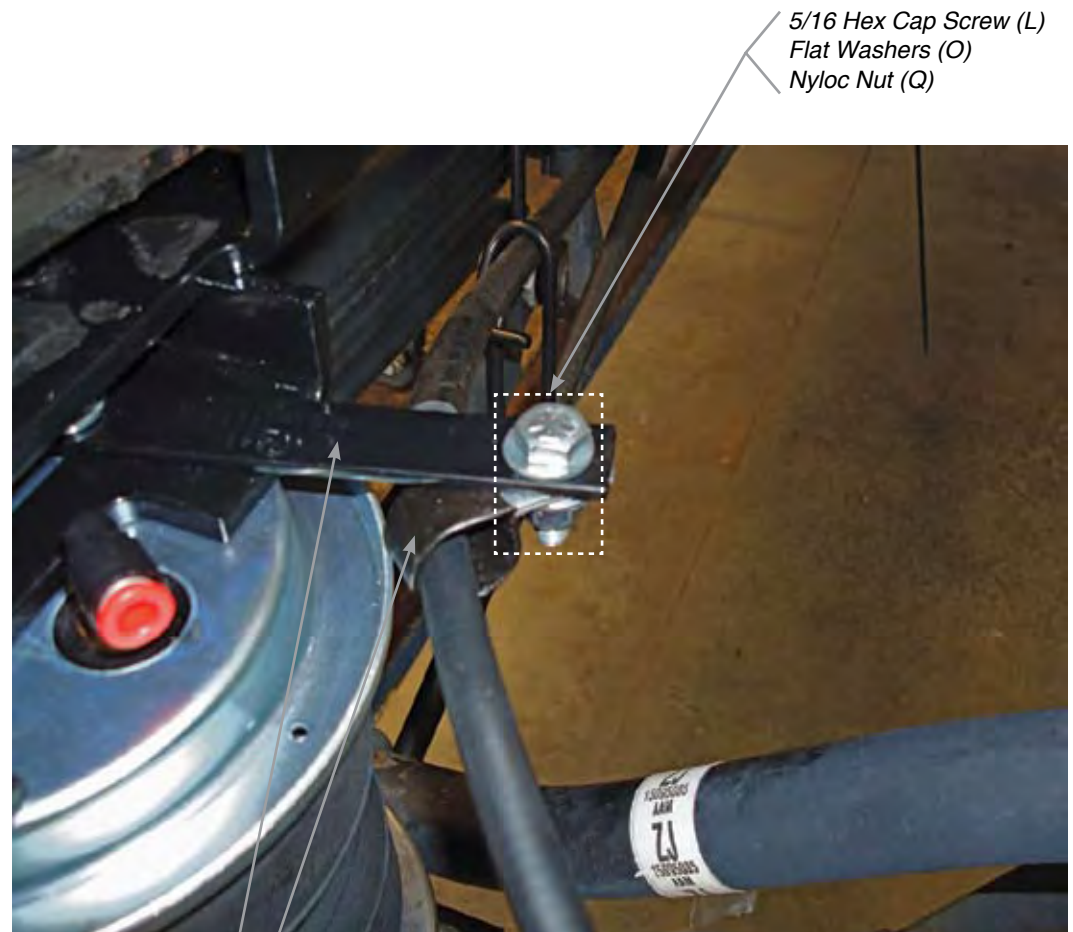

fig. 9
1. Installing a clip (K) to the cable and attach the clip to the bracket using a 5/16 hex cap screw (L), two flat washers (O), and a nyloc nut (Q). Install the cable so it is on the bellows side of the mounting hardware (fig. 9).